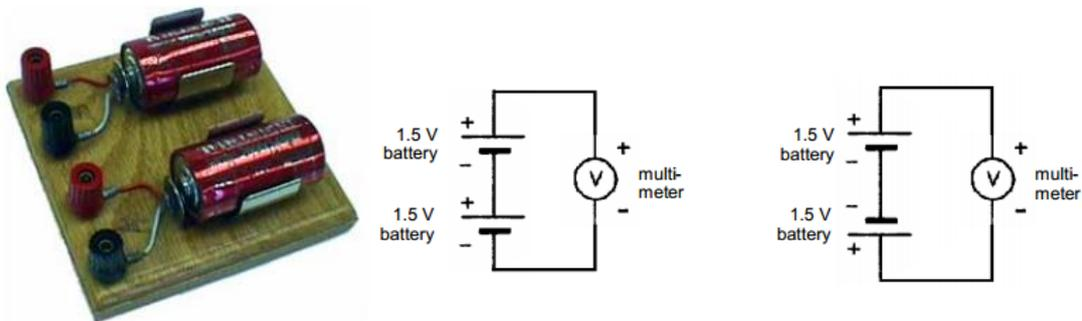

Figure 4
- Then connect the batteries in series, with **forward polarity** as shown in Figure 4, and measure the total voltage  $V_{fmeas}$ . Provide an uncertainty for this measurement based on the multimeter's specifications.